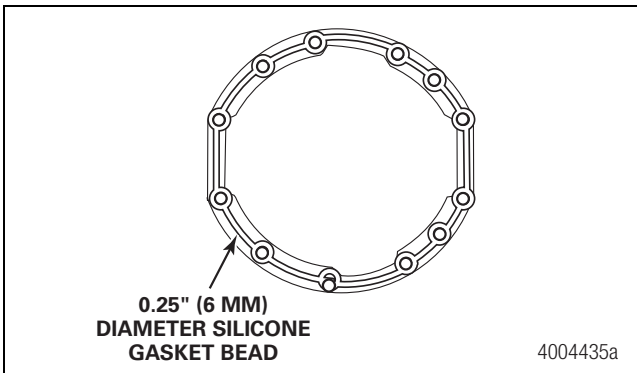

Figure 4.15
10. Apply a 0.25-inch (6 mm) bead of Loctite® 5699 silicone gasket material to the housing face. Do not use ThreeBond 1216E silicone products. Figure 4.15.